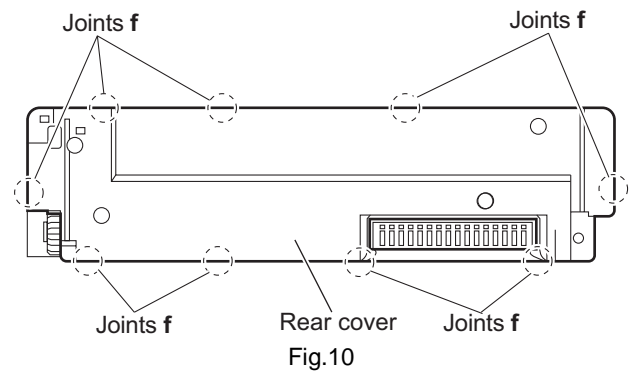

Fig.10
- (2) Release the ten joints **f**. (See Fig.10.)
### 3.2.5 Removing the clamper assembly (See Figs.10 and 11)